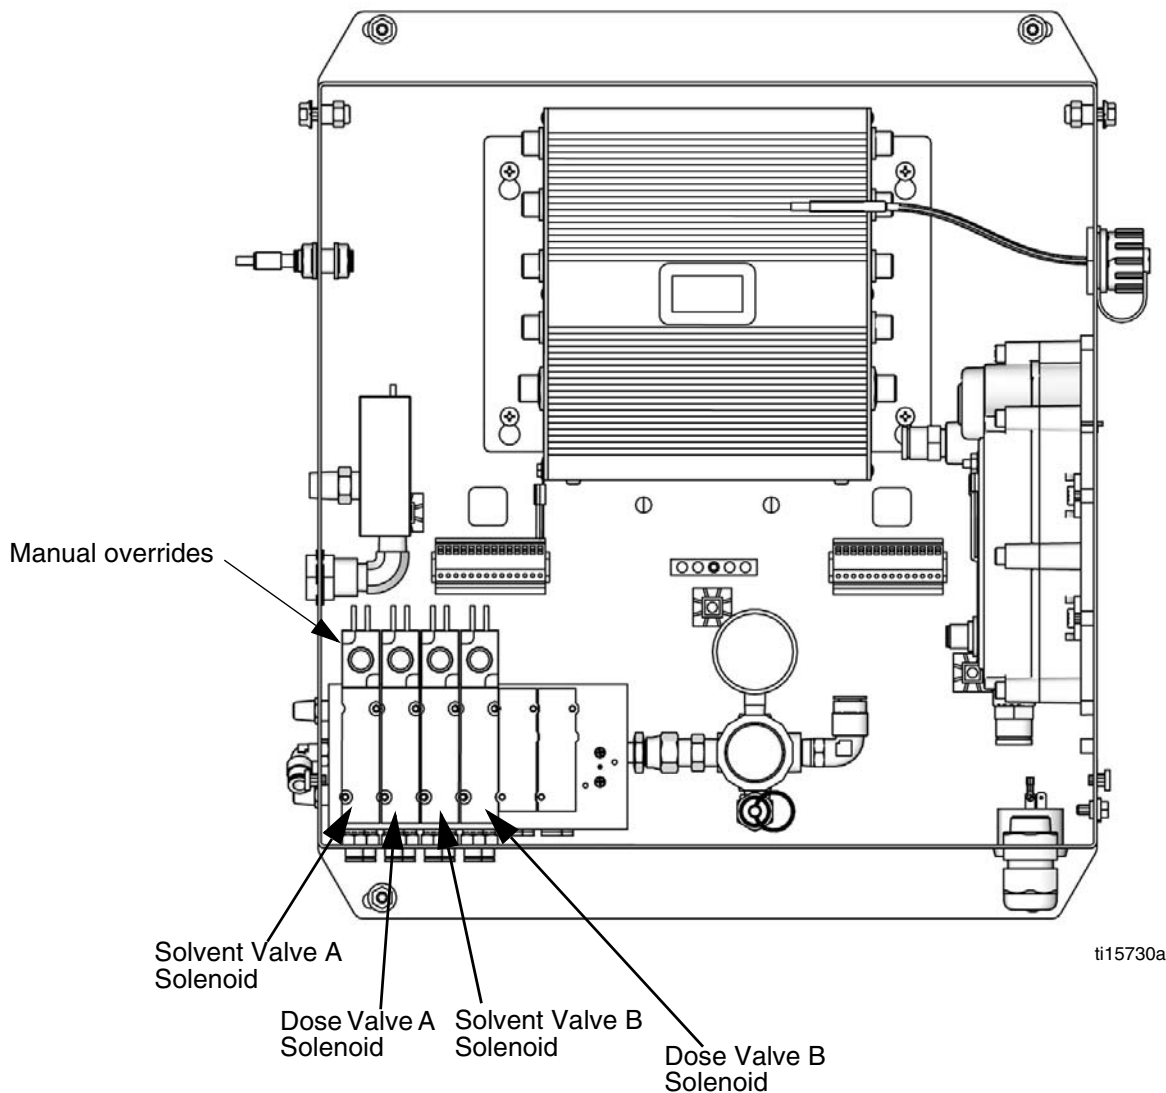

FIG. 44. Solenoid Valves in Control Box
7. Remove the Control Box cover to access the solenoid valves. See FIG. 44.